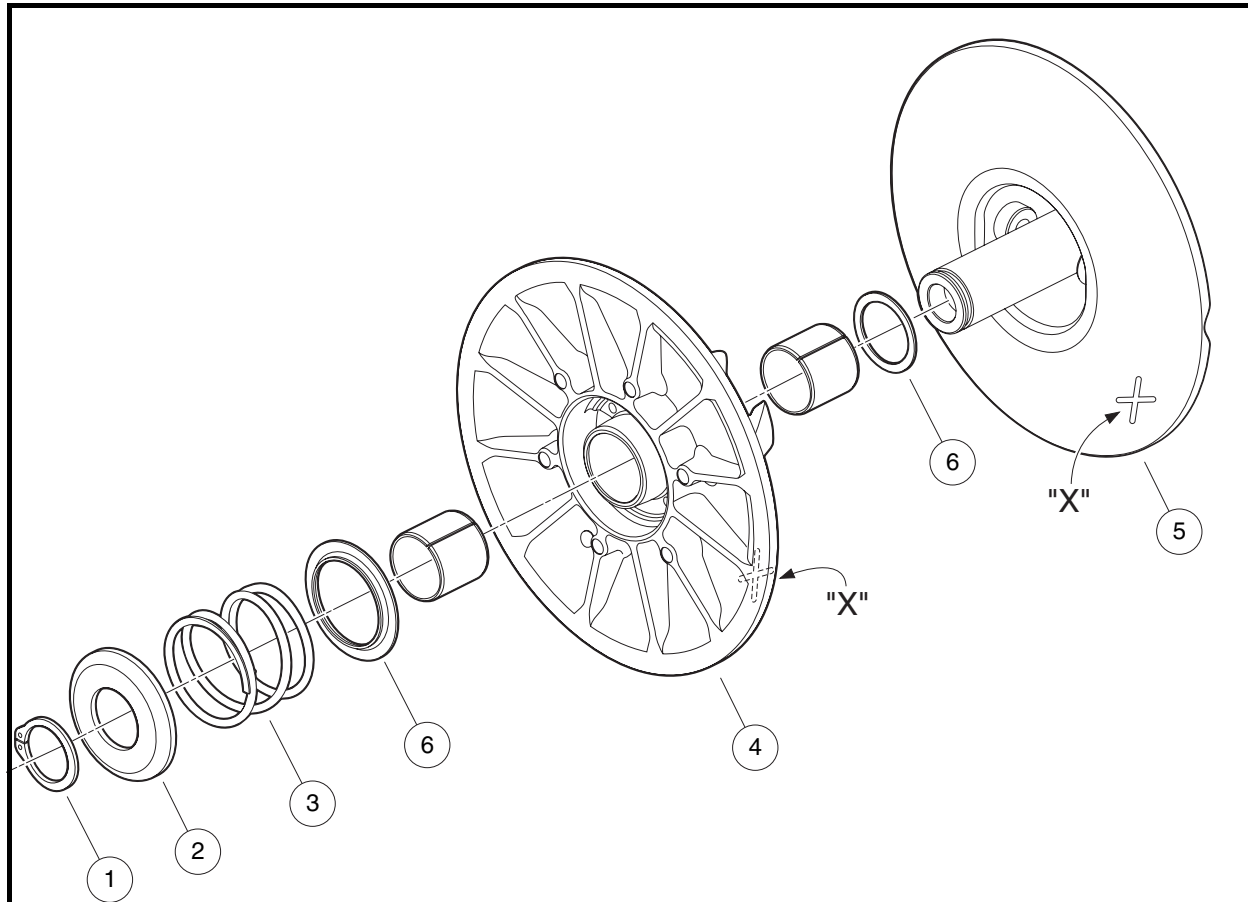

Figure 13a-37 Driven Clutch Assembly
1. Place the fixed sheave (5) onto the spring compression base and note the location of the X so the X on the moveable sheave (4) can be aligned correctly (**Figure 13a-37, Page 13a-40**).
2. Place the moveable sheave (4) onto the fixed sheave (5), and align the X's on both components.
3. Place the spring (3), cup (2), and snap ring (1) onto the clutch.
4. Place the spring compression collar onto the cup (**Figure 13a-36, Page 13a-39**).